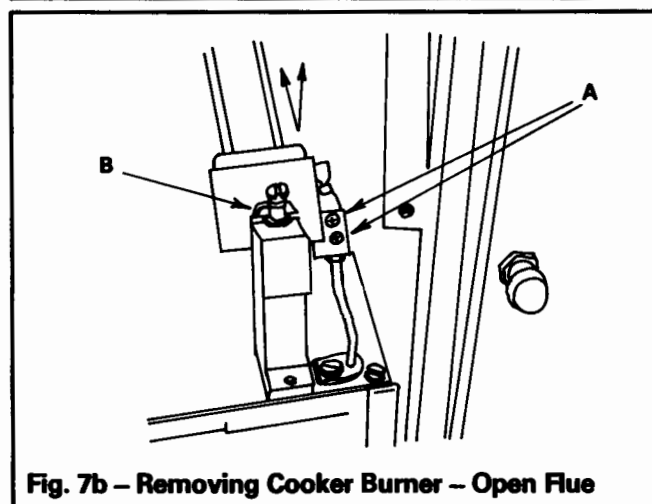

Fig. 7b - Removing Cooker Burner - Open Flue
- (ii) Remove two screws **A** securing cooker pilot burner to main cooker burner support bracket. See Fig. 7b. Slacken octagonal locknut **B** securing cooker burner injector housing to gas burner manifold, and carefully remove burner from the combustion chamber.